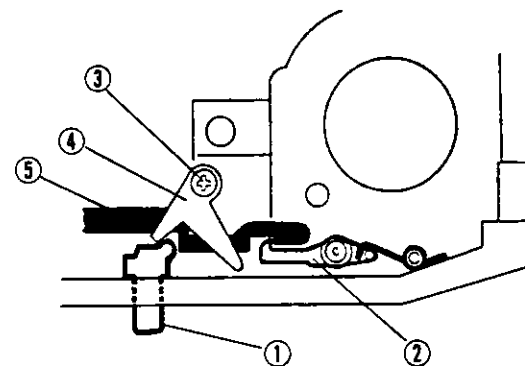

Fig. 13
- (2) Put the Wind set button (Fig. 13, No. 1) to the Body.
- (4) Set the Set lever ass'y (Fig. 13, No. 4) and the Shaft: Set lever (Fig. 13 No. 3).